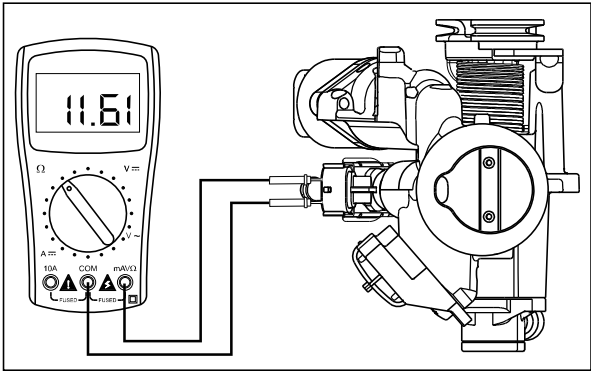

Fig. 5.52
- Disconnect the fuel injector coupler from the injector and check the resistance between two terminals of the injector. (Fig. 5.52)